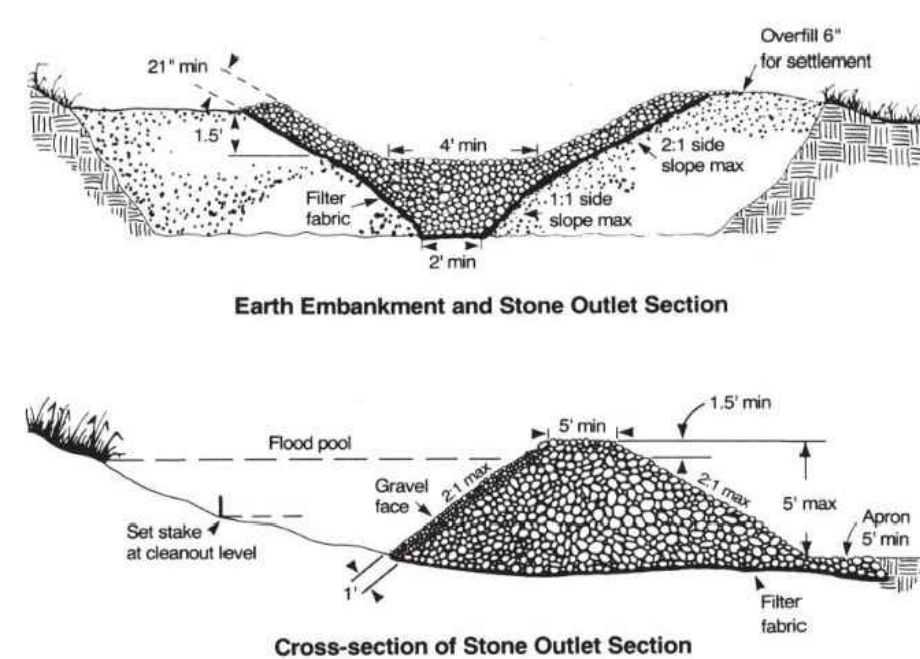

Figure 6.60b Construction detail of sediment trap.
- Embankment: machine-compacted earth fill (Figure 6.60b). Height—5 ft maximum. Side slopes—2:1 or flatter. Top width—5 ft minimum.
**Outlet Section** Excavate trapezoidal stone outlet section from compacted embankment (Figure 6.60b). Allow for thickness of stone side slopes (21 inches minimum).